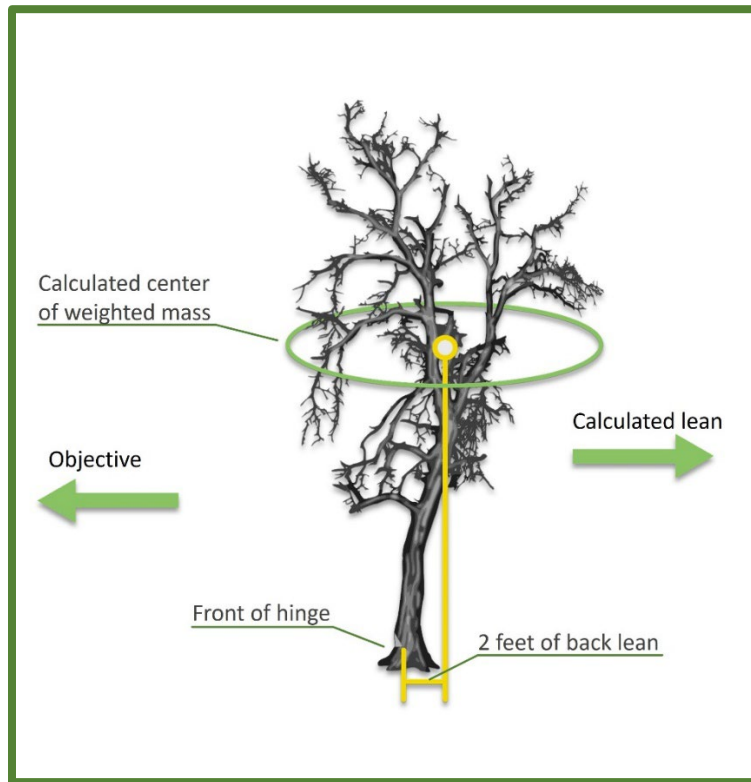

Figure 2.3.2—An example of calculated lean.
**Calculated lean** (figure 2.3.2) is the amount (expressed in feet) of front-to-back and/or side-to-side lean relative to the objective. Sawyers use calculated lean to build the cutting and wedging plans that will place the tree into the objective.